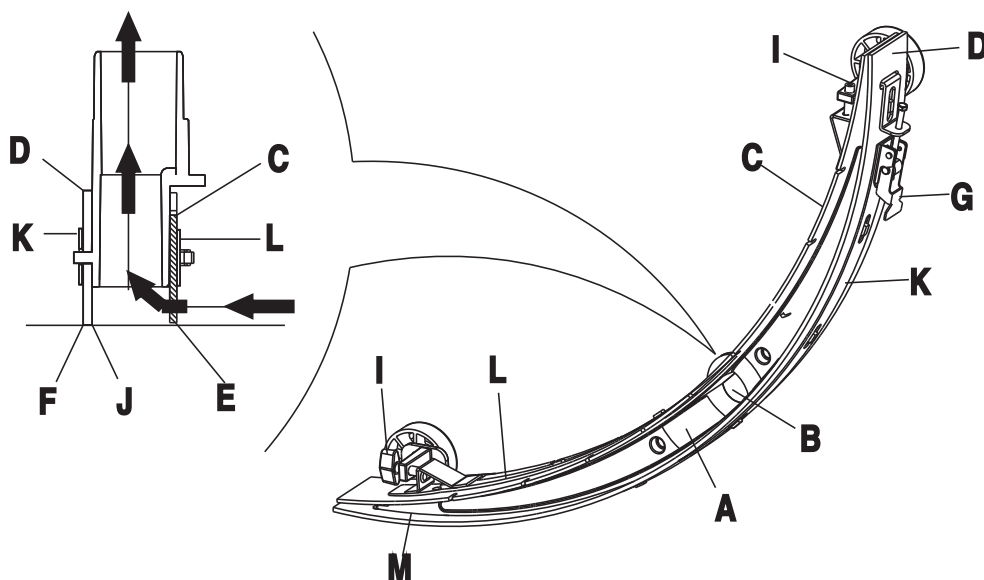

FIGURE 15
2. Press the power switch (41) to the "O" position to turn off the machine.
3. Unscrew the squeegee knobs (16); remove the vacuum hose from the squeegee assembly & remove squeegee.
4. Use the squeegee lift handle (14) to lift the squeegee mount bracket.
5. Using a damp towel, clean the squeegee (Figure 15). Clean in particular the groove (A, Figure15) and the dirt and fragments on the vacuum tube. Check if the front squeegee blade (C) and the rear squeegee blade (D) are intact, and if there are broken edges and cracks. Replace them if necessary (refer to the steps in the following section).
1. Following the methods related in the previous section clean the squeegee (Figure 15)
2. Check the edge (E, Figure 15) of the front squeegee blade and the edge (F) of the rear squeegee blade (D). On the whole length, they should be level. Otherwise, adjust their heights through the following procedure.
- Loosen the clip (G) to let the rear squeegee blade (D) separate from the bracket (M) for the adjustment of the position of the squeegee. After the adjustment, lock the clip once again.
- Loosen the screw on the handle (I) to adjust the front squeegee blade (C); tighten the handle screw after adjustment.
3. Check if the front squeegee blade (C) and the rear squeegee blade (D) is intact and if there are broken edges and cracks. If damage is found, change them according in the following way. If the front edge of the rear squeegee blade (J) has worn, it can be flipped upside down and re-installed (the top edge is required to be intact). If the top edge is also worn, change it by following the procedure below:
- Loosen the clip (G) to let the pressure blade separate from the bracket (M), take off the clip bar (K), and then change or turn the rear squeegee blade (D) upside down. Re-install the rear squeegee blade in the reverse order of taking it off.
- Loosen the handle screw (I) and take off the front clip bar (L), and then change the front squeegee (C). Re-install the front squeegee blade in the reverse order of taking it off. After changing the squeegee blade, adjust the level of the front and rear squeegee blades in the procedures as described above.
4. Connect the Vacuum hose (11) to the squeegee.
6. If necessary, adjust the squeegee by turning the adjustment knob (20) (refer to the procedures for adjusting the balance of the squeegee).